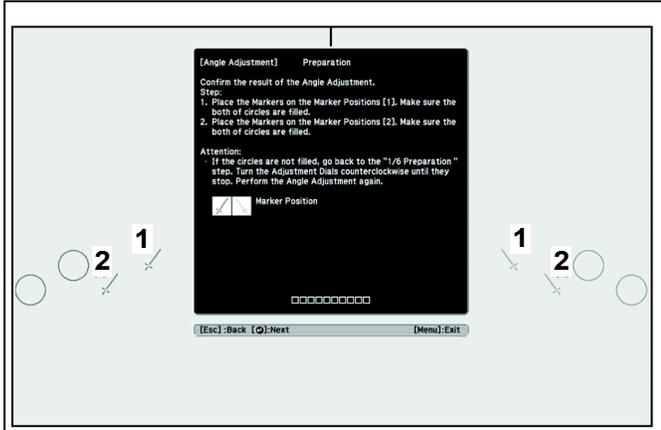

Figure 43
- When the circles on the left and right become solid, press the  button on the remote control. The following screen is displayed. (See Figure 43)